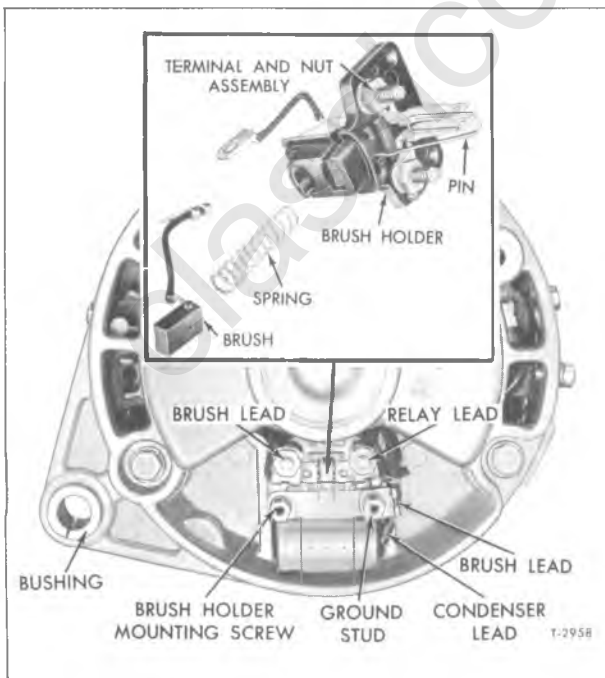

Figure 16—Generator Brush Replacement (Model 1117754)
Removal (Fig. 16)
Installation (Fig. 16)
2. Position brush holder and brushes in end frame, then secure brush and condenser leads to terminals as shown in figure 16.